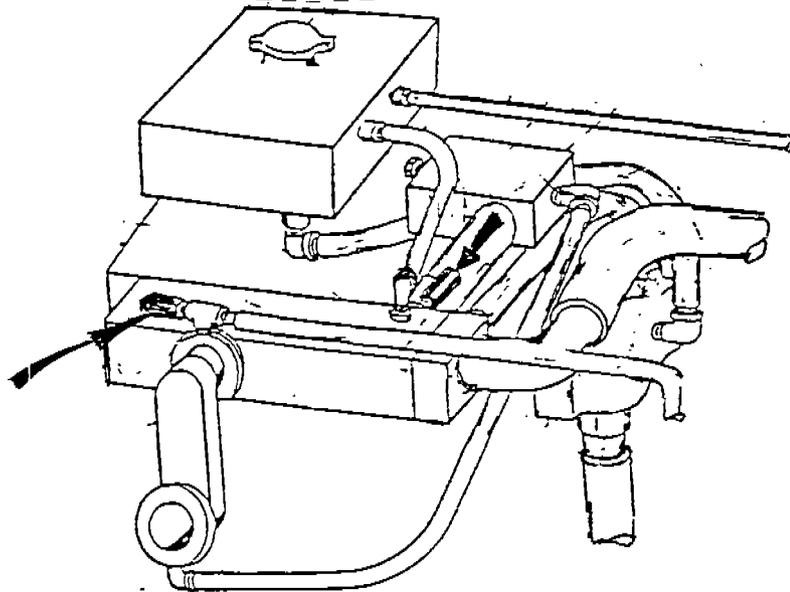

Figure 16. Location of High Coolant Temperature Sensors.
30. () The safety system includes two high coolant temperature shutdown sensors. One in the exhaust pipe outlet and one in the exhaust manifold as shown in Figure 16.